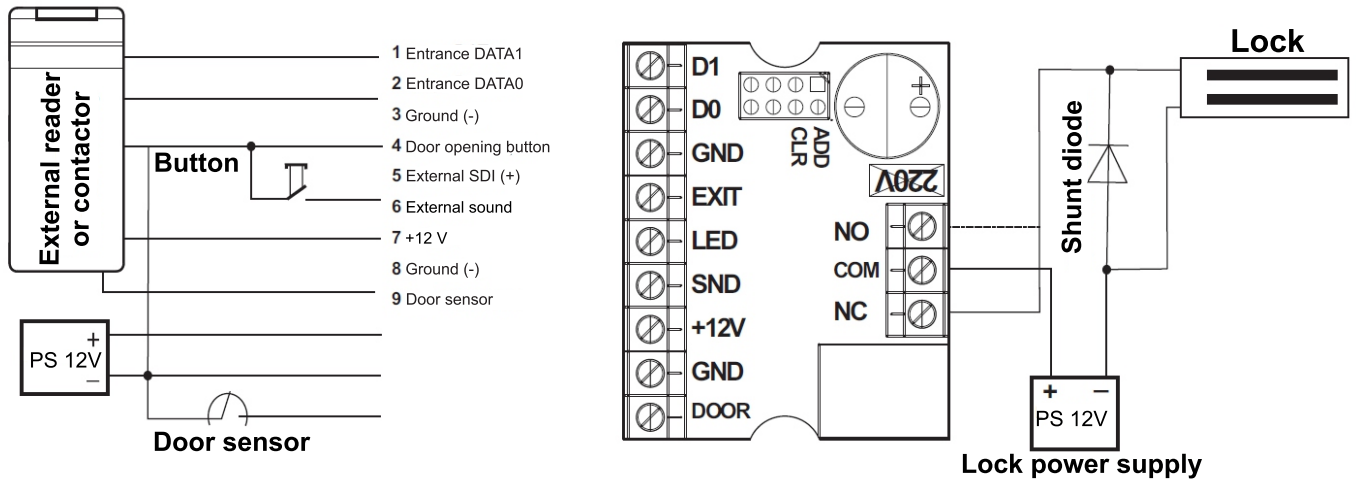

Figure 6. Connecting external devices
**Important!** To protect the relay contacts from burning out when connecting an inductive load in the form of an electromagnetic or electromechanical lock, a shunt diode included in the delivery set should be installed parallel to the lock winding (see Fig. 6).
4. Install the protective diode (see Fig. 6) in the case of inductive load (electromagnetic or electromechanical locks).